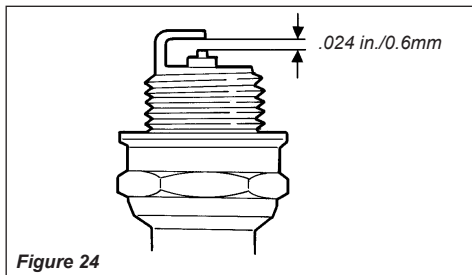

Figure 24
2. Clean the electrode with a wire brush. If necessary, adjust the electrode gap. The gap should be .024 in./0.6mm. See Figure 24.